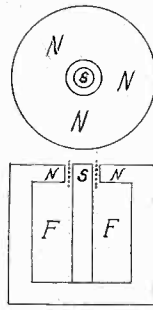

FIG. 6
In Fig. 6 is shown a driver operating on the electrodynamic principle. An electromagnet (NNS) magnetized by a field winding (FF) is employed instead of a permanent magnet. This produces an intense magnetic field across the ring shaped opening between the central round pole (S) and the annular pole (N). In this opening is placed a small coil of fine wire, shown by